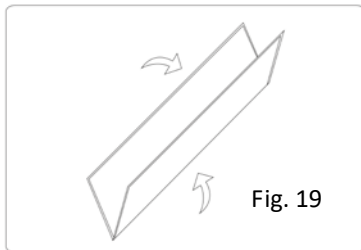

Fig. 19
4. Loosen and remove the ropes, **knob screws (E)** and **eyebolts (F)** from each leg.
6. Remove the frame *legs (B)* from the *folding frame (A)*.
7. Detach the *screen material (D)* from the *folding frame (A)* by carefully unsnapping each button as shown.
8. Fold *screen material (D)* in half, folding the bottom of the screen towards the top. Then, fold in half again in the same way. Lastly, fold the material into thirds to condense the length, see Fig. 19 – 21.